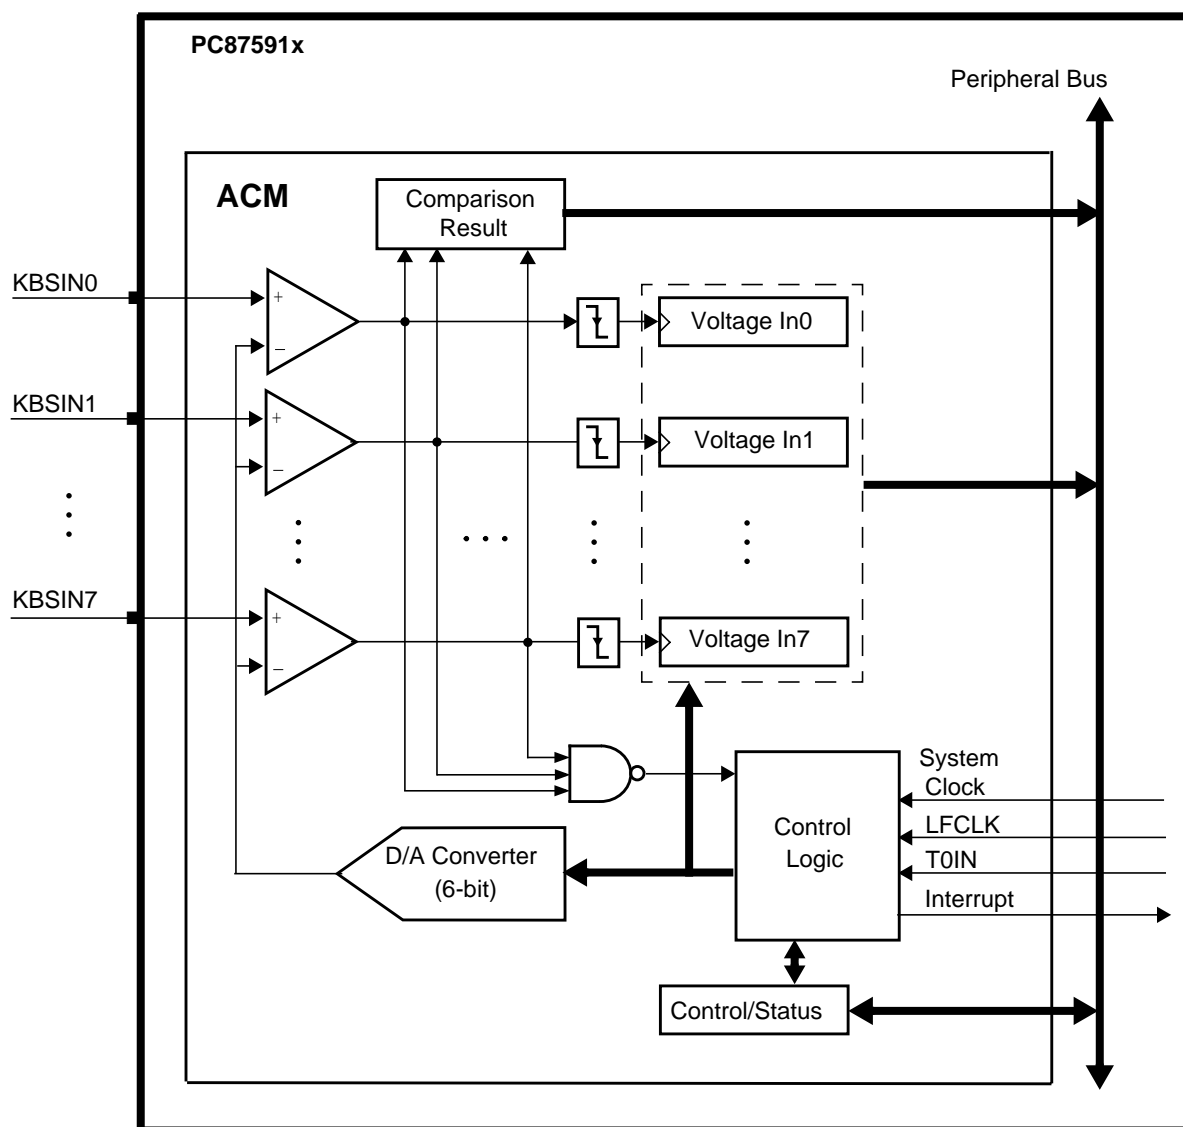

Figure 74. ACM Functional Diagram
**Inputs.** The ACM has eight analog inputs with a voltage ranging from 0V to  $V_{CC}$  (FS), as shown in Figure 74.